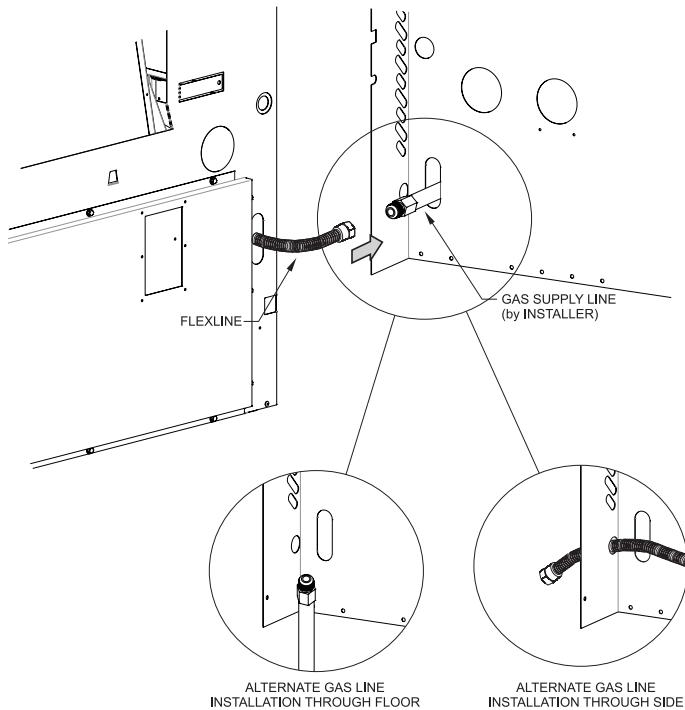

Figure 34
1. Pull the factory installed flexible gas line through the hole in the back panel. **See Figure 34.**
2. Connect the gas supply line to flexible gas hose. Ensure that flexible gas hose is not kinked after fitting gas supply line. Any excess flexible line can be pushed back into the wall furnace. **See Figure 34.**